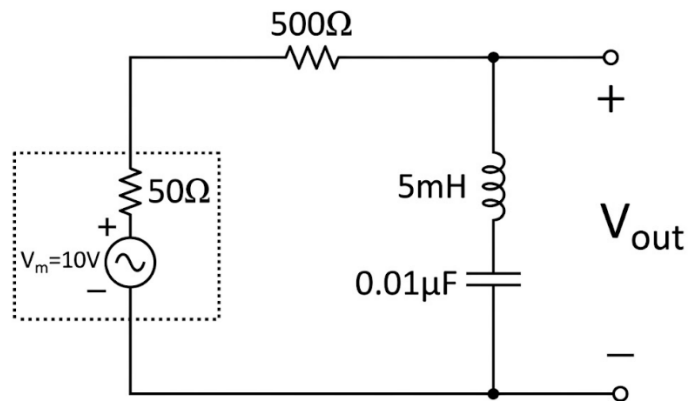

Figure 2
P2 For the filter given in Figure 2,
1. Reconfigure the components to match the series LC structure shown in Figure 2.